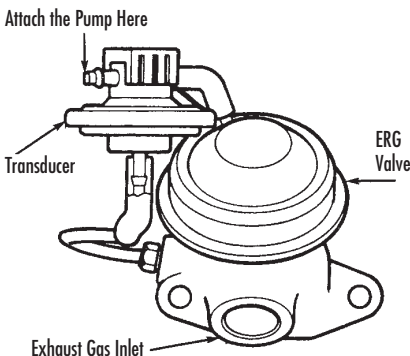

FIGURE 12: TEST THE VACUUM SOURCE FOR THE BPV WITH YOUR PUMP
1) Remove the air cleaner and plug the intake manifold fitting. Start the engine and bring it to normal operating temperature. Position the fast-idle cam follower on the second step of the fast-idle cam (to obtain about 1500 RPM), and then note engine speed on a tachometer. Use the pump to check the source vacuum at an intake manifold port (FIGURE 12). Note this reading.